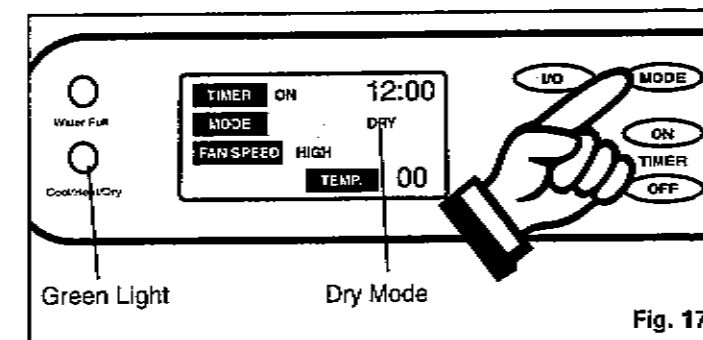

Fig. 17
- 2) Press the **MODE** key until the word **DRY** (Dehumidifying) is displayed in the **LCD** display window. *Fig. 17.* Each depression of the **MODE** key will advance to a different mode setting (**Cool-Heat** (DPAC7599)-**Dry-Fan**).